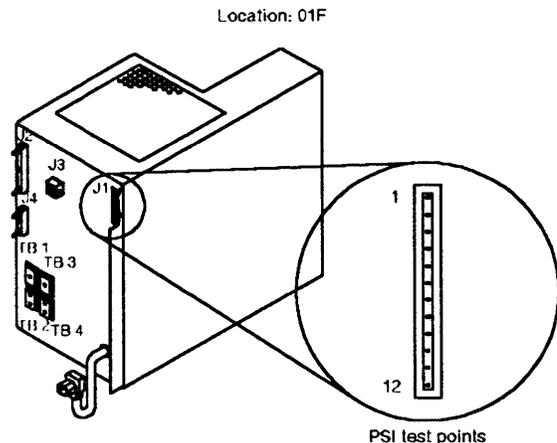

Figure 4-71. PS1
- c. Using Table 4-5, measure the voltages on the voltage test points of PS1, refer to Figure 4-71. If the voltages are incorrect, exchange PS1.